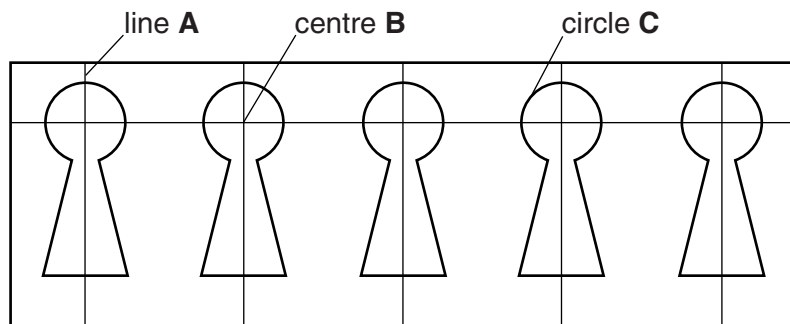

Fig. 17
- (a) (i)** Fig. 17 shows the keyhole shapes marked out on aluminium sheet.